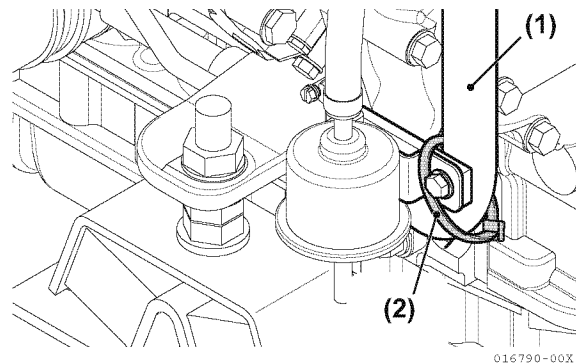

Figure 5-183
- Install the freshwater pipe: lubricating oil cooler, freshwater pump. Attach the pipe to the bracket of the feed pump by nylon band (**Figure 5-183**).